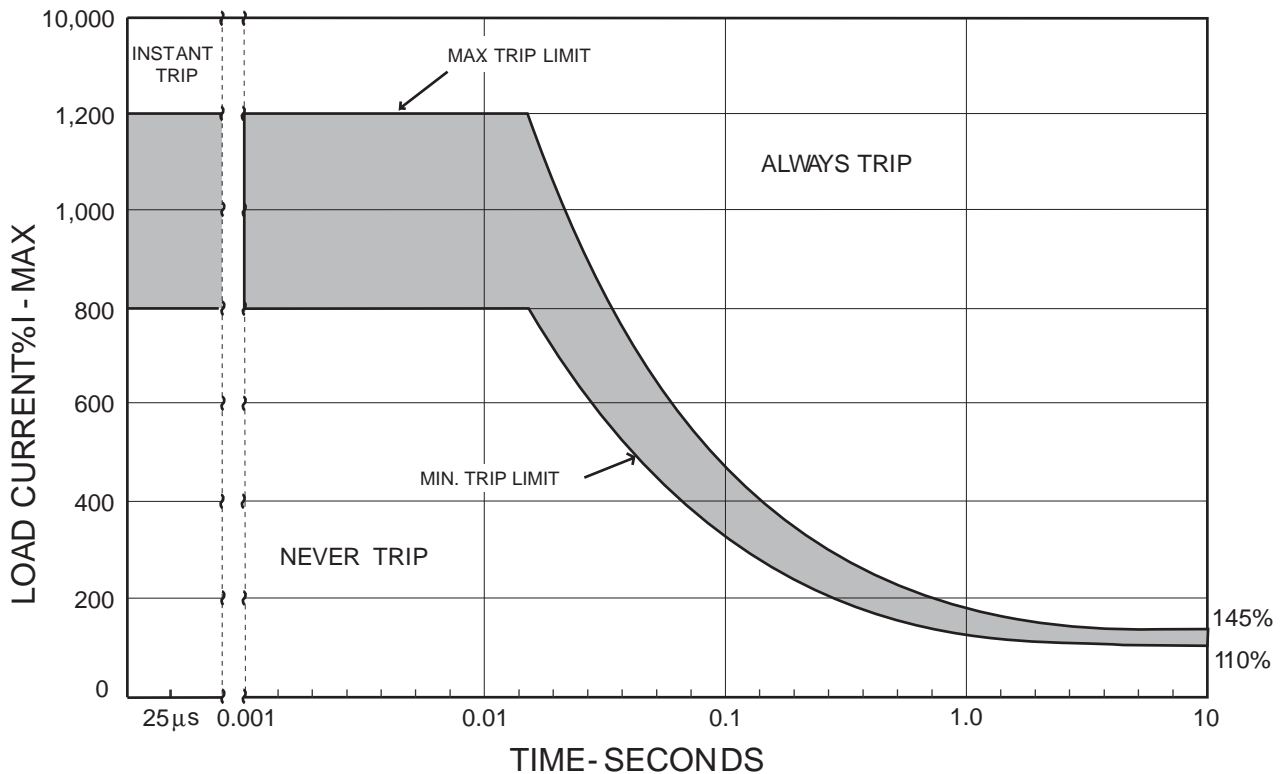

FIGURE 2. TRIP CHARACTERISTICS
Trip Characteristics	see FIGURE 2
As in a circuit breaker, the SSPC's time to trip depends on the current level. Slight overloads will cause longer trip times. Heavy overloads will cause shorter trip times. The fault ("Instant Trip") and I²T trip curve (see FIGURE 2) shows the trip time as a function of current for a single trip or repetitive trips with at least 10 seconds between trip and turn on. Attempts to repeatedly turn on into an overload will result in the thermal memory shortening each trip time. This "memory" protects the wire, load and Solid-State Power Controller.
For load currents less than 800%, the trip time can be found from FIGURE 2 by drawing a horizontal line on FIGURE 2 at the current level of interest. The SSPC will always trip at a time between the two curves. This is true I²T tripping.
For load currents greater than 1200%, the SSPC will turn off in less than 25 μs. Between 800% and 1200%, the SSPC will turn off in a time less than the "max. trip limit" shown in FIGURE 2 and may turn off in less than 25 μs. When the SSPC turns off under these fault conditions, the fall time is less than 25 μs.
- 3) Any trip condition per FIGURE 2.
Capacitive loads require comparing the load in-rush current to the trip curve of FIGURE 2. The inrush current must be below the minimum trip curve to avoid tripping on the inrush current. The inrush current can be calculated from the voltage rise time by using $i=C \cdot dv/dt$. Use the minimum rise time for calculation. The minimum rise time is 25% of the maximum rise time specified in FIGURE 3.